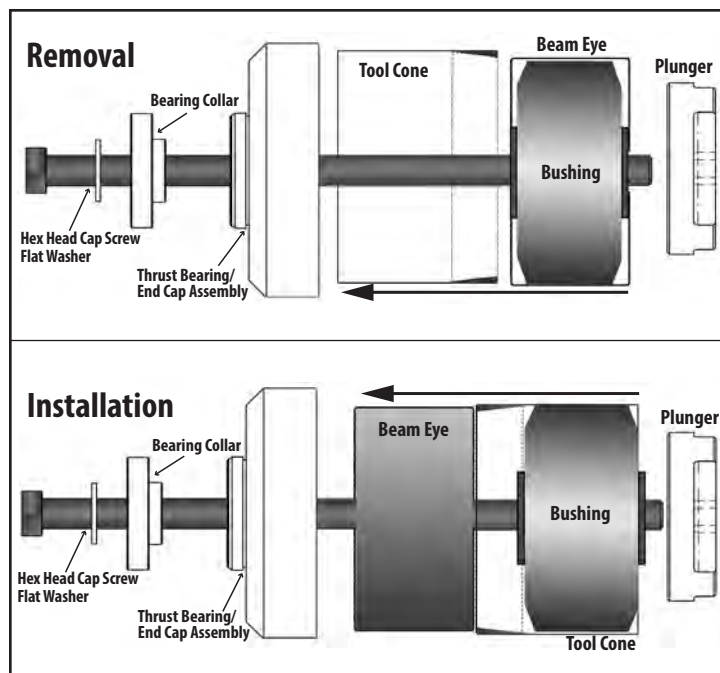

Figure 8.
2. Place flat washer onto hex-head bolt, followed by the bearing collar, then the end cap. The bushing tool cone tapers to a smaller opening on one end. Place larger opening of the cone onto the end cap. NOTE: Always place the tapered end of the cone against the eye of the beam (Figure 8).
4. Place the plunger/cone/bushing assembly on the beam eye (Figure 8).